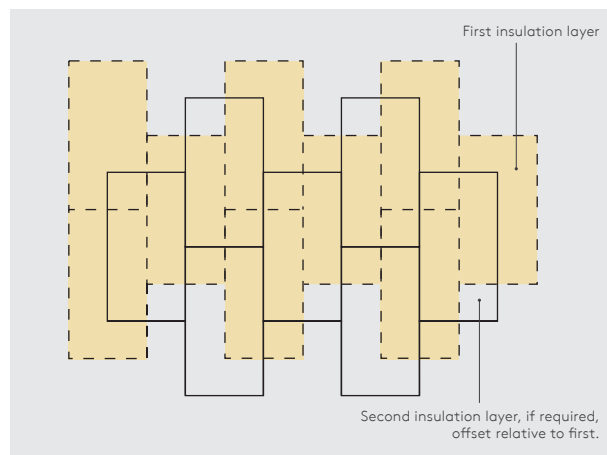

Figure 15 - Offsetting of multiple insulation layers
- If two layers of insulation are required, they should be horizontally offset relative to each other so that, as far as possible, the board joints in the two adjacent layers do coincide with each other (see Figure 15).
- If two layers of insulation are required, they should be horizontally offset relative to each other so that, as far as possible, the board joints in the two adjacent layers do not coincide with each other (see Figure 15).